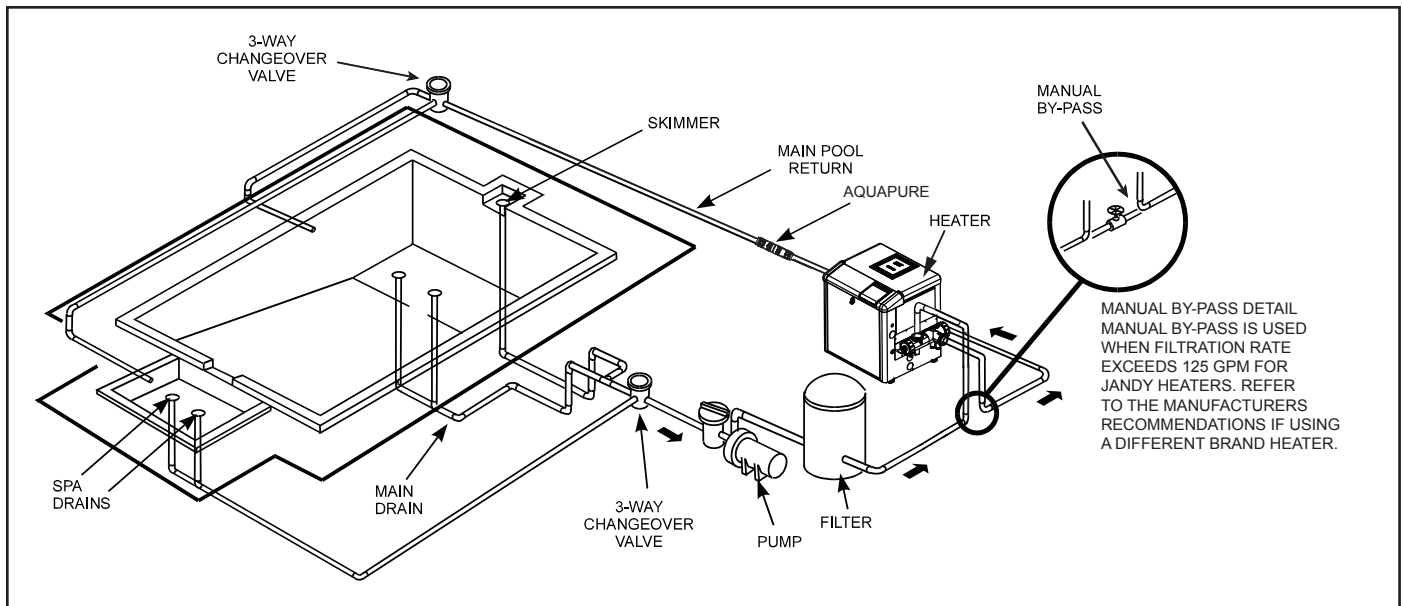

Figure 2. Typical Piping Installation
1. Zodiac® recommends installing the pump within one (1) foot above water level. Refer to Figure 2 for a typical installation. The pump should not be elevated more than three (3) feet above or below the water level of the pool.
- The ePump + SVRS must be connected to at least two (2) hydraulically-balanced suction outlets (suction outlets) for each pool pump suction line. Refer to Figure 2. Each drain must be provided with covers that are listed or certified to the latest published edition of ANSI®/ASME® A112.19.8 or its successor standard, ANSI/APSP-16. The suction outlets of the suction outlets must be at least three (3) feet apart or at different planes. The suction outlets can be a drain and skimmer, two (2) drains, two (2) skimmers, or a skimmer with an equalizer line installed. For additional details and guidelines, refer to ANSI/APSP 7, the standard for Suction Entrapment Avoidance in